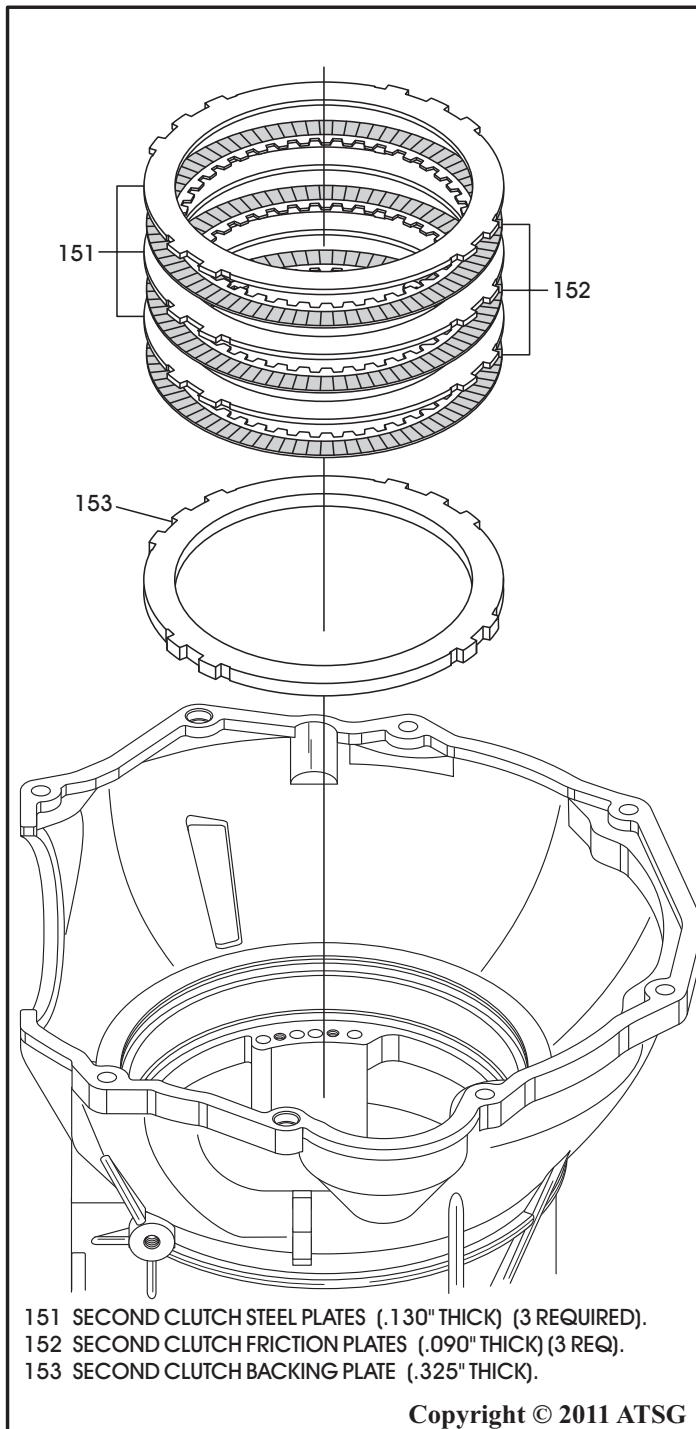

Figure 145
13. Install the 2nd clutch backing plate into the case, as shown in Figure 145.
14. Install 2nd clutch pack beginning with a friction plate and alternating with a steel plate until you have 3 of each installed, as shown in Figure 145.